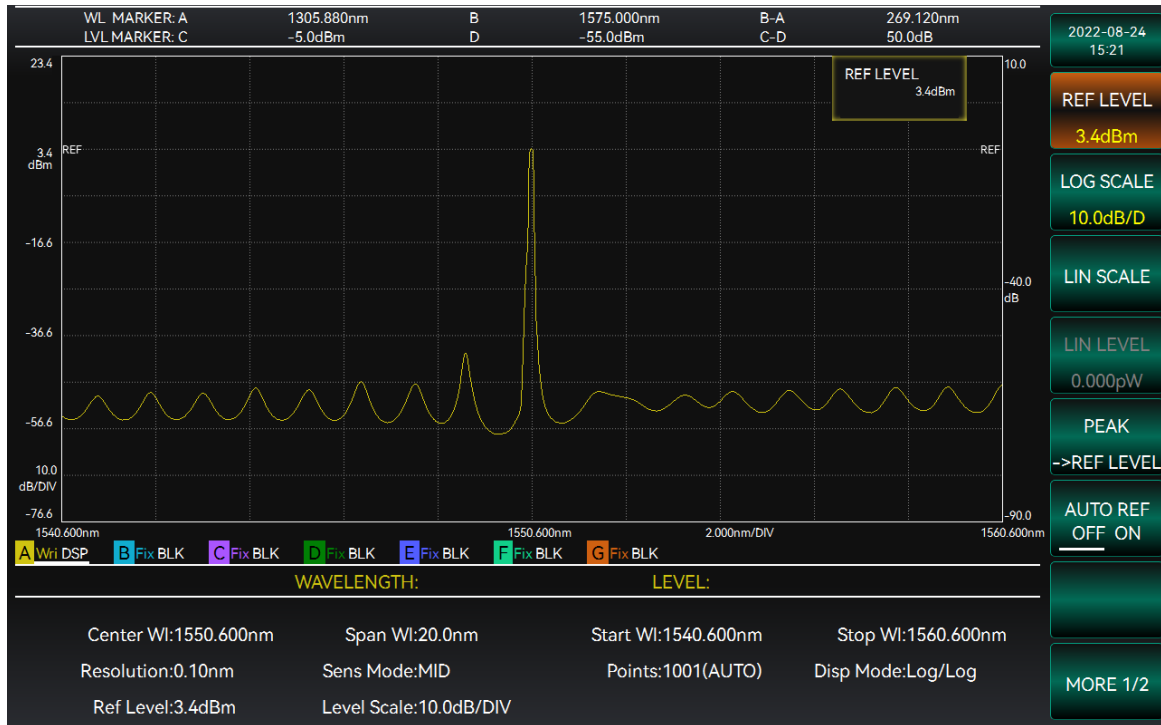

Figure 3-19 Energy level menu interface
2. Select [RefEngLvl] and enter the energy level value via the knob or number keys to complete the setting. The operation interface is shown in Figure 3-19.